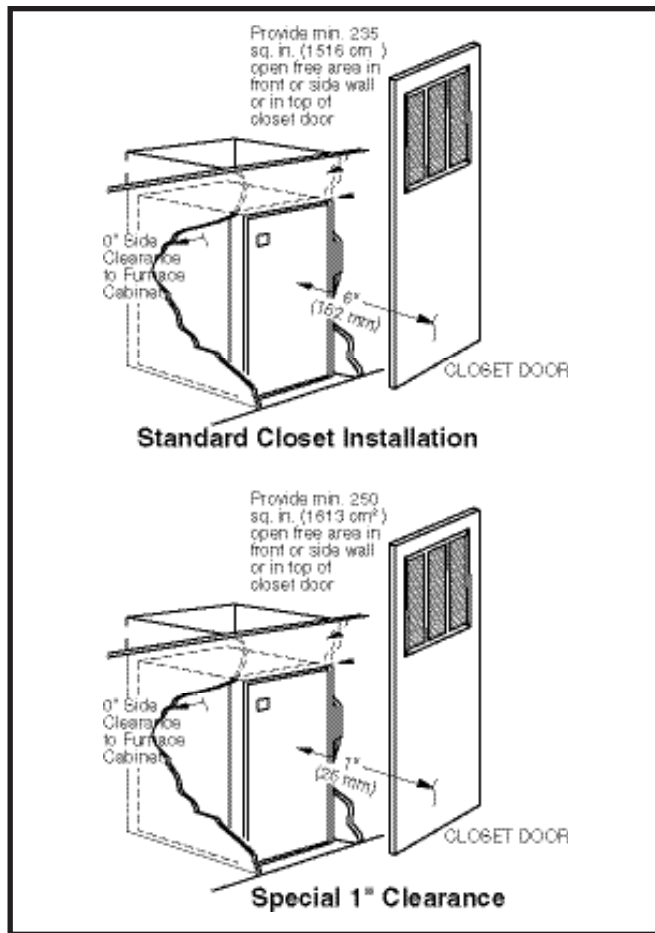

Figure 13. Closet Installation
1. Cut alcove rough openings to minimum dimensions shown in Figure 13.